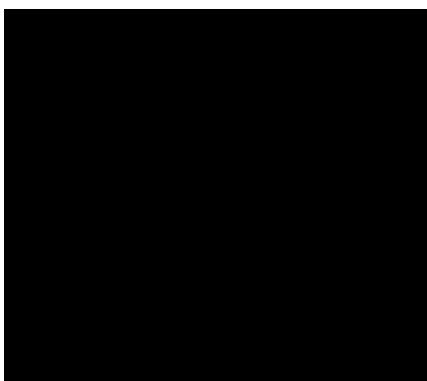

FIG. 1: Typical Installation
The typical installation shown in FIG. 1 is only a guide for selection and installation of a pump. It is not an actual system design. Contact your Graco representative or Graco distributor for assistance in the design of a suitable system.
Install the accessories shown in FIG. 1.
- Insert the muffler (5) into the 3/4 npt muffler port and tighten using a wrench on the flats of the muffler near the male threads.
- Install an air line lubricator (N) for automatic air motor lubrication.
- Install an air regulator (C) to control the pump speed and pressure.
- Install an air line filter (B) to remove harmful dirt and contaminants from the compressed air supply.
- Install bleed-type master air valves (A) to relieve air trapped between it and the motor when the valve is closed, and to isolate the accessories for servicing. See FIG. 1. To order a bleed-type master air valve, order Part No. 107142.
- As an alternative to a bleed-type master air valve, installation of an air line female quick-disconnect coupler (M) and male quick-disconnect pin fitting (L) (see FIG. 1) can serve as an air-bleed device.
- Install a ball valve (F) at the end of the line drop for releasing moisture that collects in the line (FIG. 1).
- Install a drain valve (H) near the pump fluid outlet to relieve fluid pressure in the hoses and gun when opened. To order a fluid drain valve, order Part No. 210658.
- Install a pump runaway valve (D) to shut off the air to the pump if the pump accelerates beyond the pre-adjusted setting, which can be caused by a depleted fluid supply. A pump that runs too fast can be seriously damaged. To order a 3/4 npt(f) inlet and outlet pump runaway valve, order Part No. 215362.
- Install a thermal relief kit (K) on the dispensing valve side of the pump. To order a 1600 psi (11 MPa, 110 bar) thermal relief kit, order Part No. 240429.
- Install a suitable fluid hose (P) and dispensing valve (J).
The pump shown in FIG. 1 is wall mounted. To order the wall mounting bracket, order Part No. 238425.